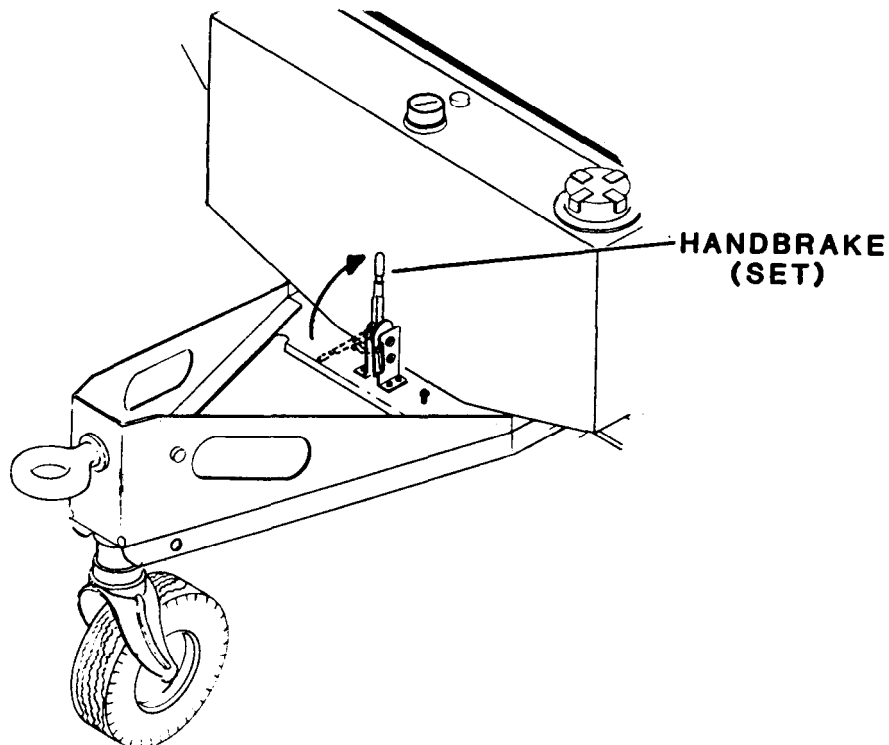

Figure 4-4. Setting the Handbrake
(1) Release handbrake (figure 4-4) and guide generator set toward pintle of tow vehicle.
(2) Open pintle.
(3) Set handbrake (figure 4-4).
(1) Lower generator set to new worksite.
(2) Set handbrake (figure 4-4).
(3) Remove padding, if installed.
(4) Remove shackles and cables from hoisting device.
(5) Remove shackles and cables from tiedown rings.
(6) Continue installation (paragraph 4-2).